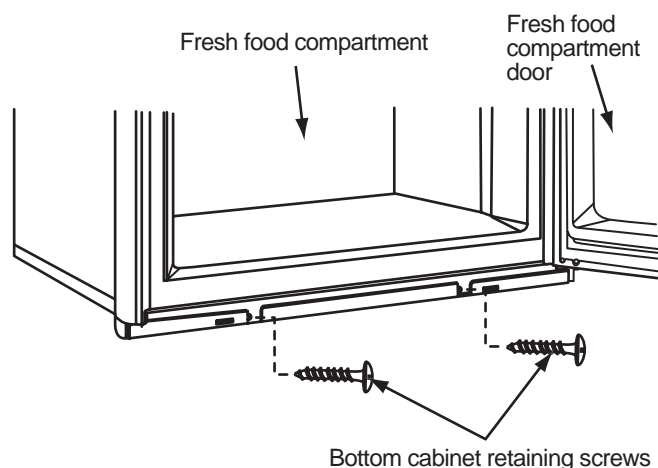

Figure 34. Bottom cabinet retaining screws
7. Remove the two retaining screws from the bottom of the cabinet. See Figure 34, page 37.
3. Install the two retaining screws in the bottom of the cabinet. See Figure 34.